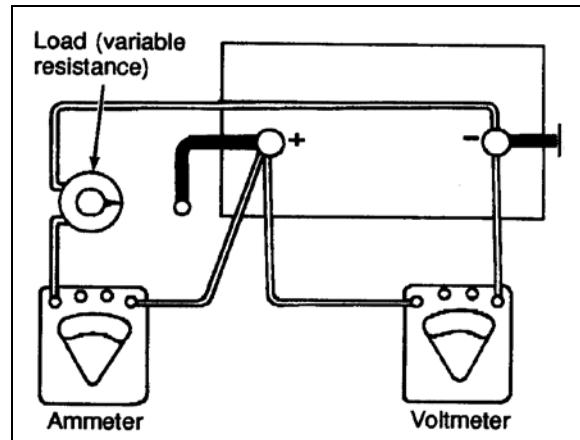

FIGURE 19: LOAD TEST06064
To make this test, use test equipment that will withstand a heavy electrical load from the battery, such as a carbon pile resistor along with an ammeter and volt meter (fig 19). A charging system analyzer test equipment may also be used.
1. Connect a voltmeter, ammeter, and a variable load resistance as illustrated in figure 19.